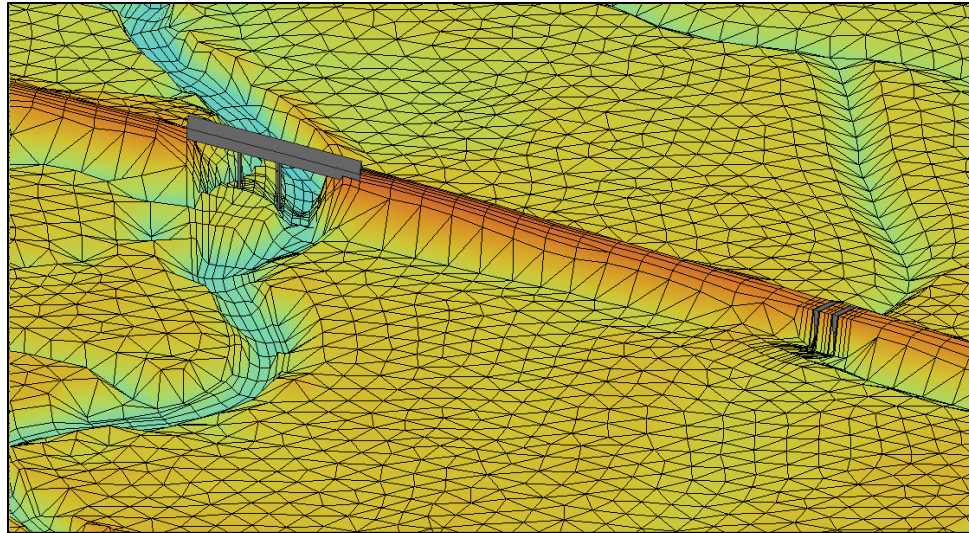

Figure 2 The 3D bridge (left) and culvert (right) structures.
5. Using the **Rotate**  tool, rotate the Graphics Window to view the 3D bridge and culvert (Figure 2).